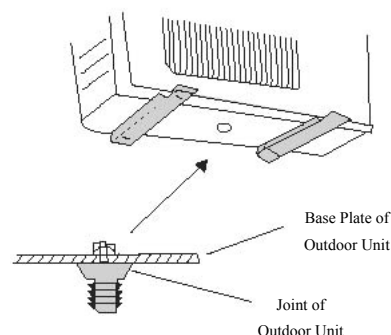

Figure 11-11
- As shown in Figure 11-11, insert the drainage joint of the outdoor unit into the  $\phi 25$  hole on the base plate. Connect the drainage pipe to the drainage mouth so as to drain the condensate water and water generated by defrosting to proper place.